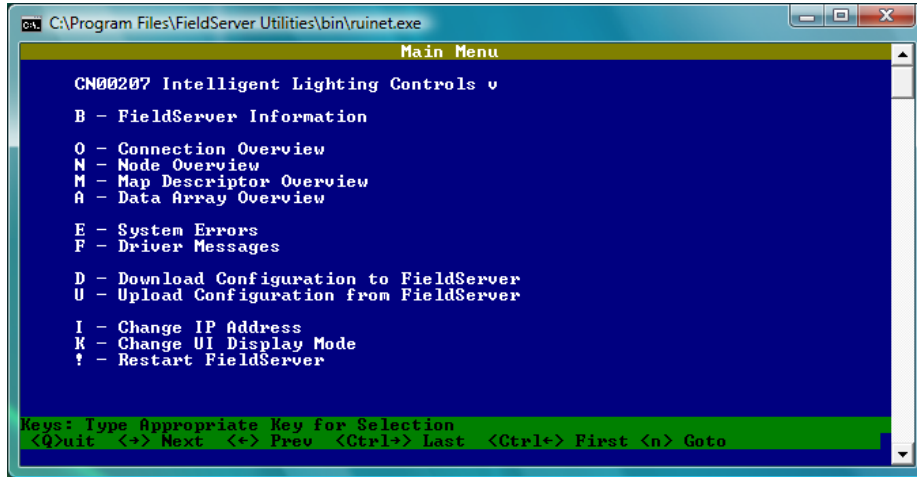

Figure 2 Main Screen
4. Start the FieldServer Utility program (ruinet.exe) and connect to the LonWorks module. Figure 2 shows the main menu screen of this utility. From this screen you can upload the configuration file to adjust the device address or change the IP address.